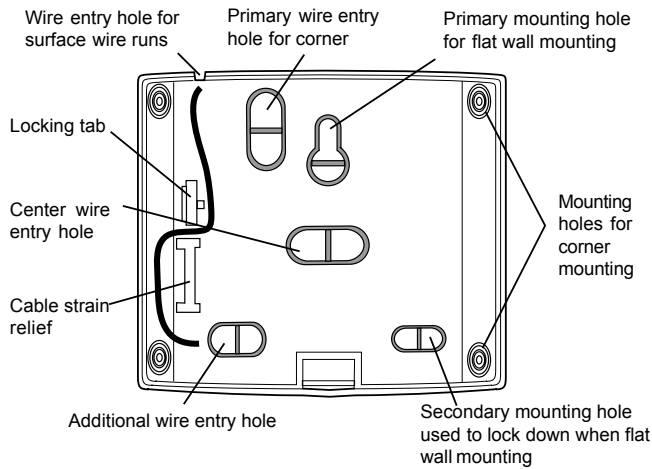

Figure 3. Back Housing
3. Open the detector and, after selecting appropriate mounting and wire entry options, remove the knockouts by depressing from the inside of the detector in the center of desired knockout (see Figure 3). The circuit board may be removed to facilitate mounting and removal of knockouts if desired.
6. Route the cable through the strain relief located on the far left side of the back housing (see Figure 3). Snap on the front housing.